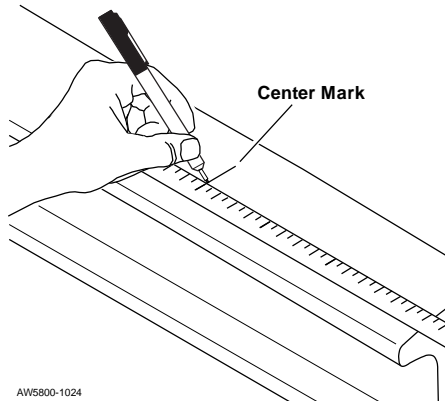

Figure 1. Marking the Center of the Steer Axle
1. Locate and mark the center of the steer axle. See Figure 1.
5. Re-mark the center of the steer axle. See Figure 1.